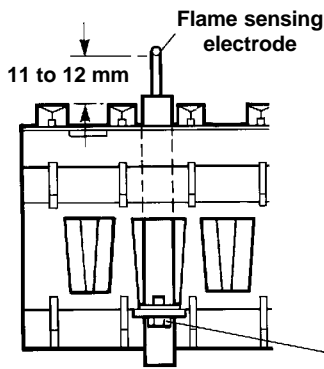

Fig. 21
9. Check the spark gap, positioning and height of the electrodes (see Figs. 21 and 22).
### 8.3 ELECTRODES - Figs. 21, 22
4. **Flame sensing electrode - Fig. 21**
Fit the new electrode, ensuring it is positioned correctly (see Fig. 21).